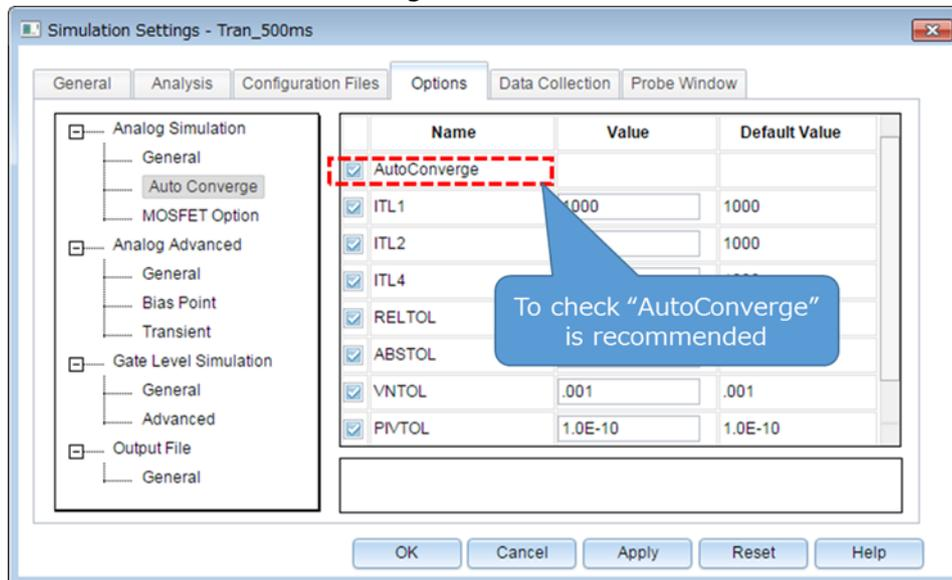

Fig. 5.4 Simulation Settings - Options dialog box
3. Click the **Options** tab to choose analysis options. For the simulation of our model, it is recommended to check **Analog Simulation - Auto Converge - AutoConverge** as shown in Fig. 5.4 to enable the automatic convergence feature.